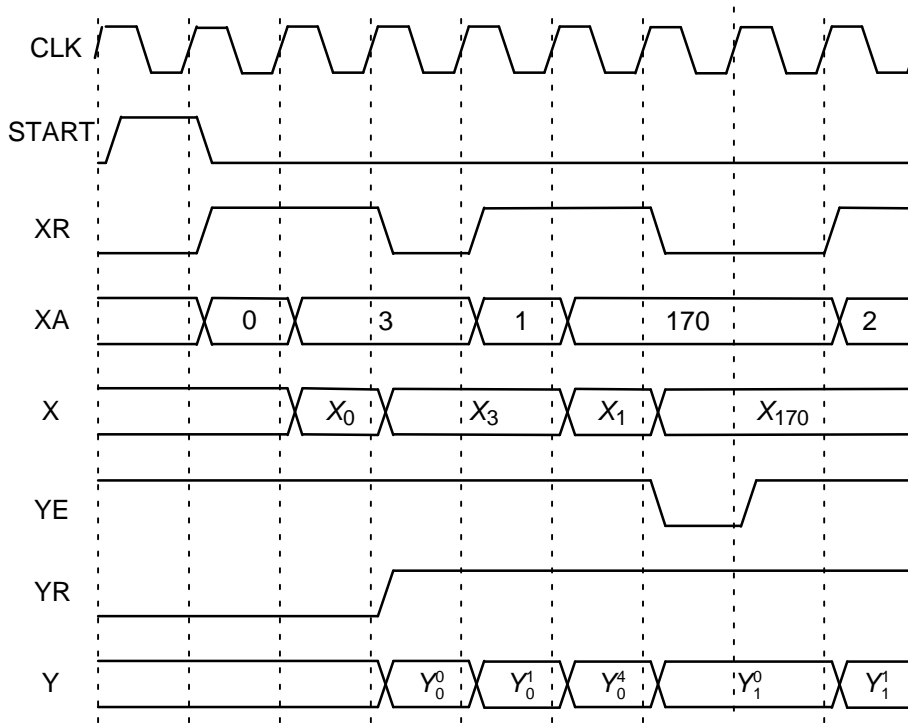

Figure 3: PCE04C Initial Encoder Timing ( $K = 1784, R = 1/3$ ).
Figure 3 shows the initial timing diagram for encoding a block of data of length  $K = 1784$  with  $R=1/3$ . The encoder starts and ends in state 0. When the encoder requires data  $X$  to be read from the input RAM, the data ready signal XR goes high and XA[13:0] selects the data bit. After a START signal is initiated XR goes high after one cycle (this occurs for all rates). It is assumed that the data is stored in a synchronous read RAM with XR used to control the enable input of the RAM. An asynchronous read RAM can also be used by registering the RAM output.
- 1.03 7 Dec. 2017. Added Revision History. Deleted Spartan-3, Spartan-6 and Virtex-4 performance. Updated Virtex-5 and Virtex-6 performance. Added Zync-7, Artix-7 and Kintex-7 performance. Deleted Virtex-II and Virtex-5 complexity. Added Kintex-7 complexity. Corrected XA in Figure 3. Corrected (1) and K in Figures 3 and 4.